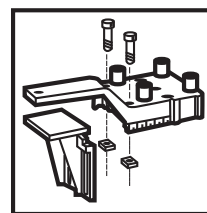

Figure 7
- Attach the angle piece to the dowel jig using the screws and square nuts. Insert the screws through the two holes on the top of the jig and attach the square nuts to the bottom. Do not tighten. Slide the angle piece into the slot between the bottom of the jig and the square nut. Keep the angle piece slightly loose. See Figure 7.